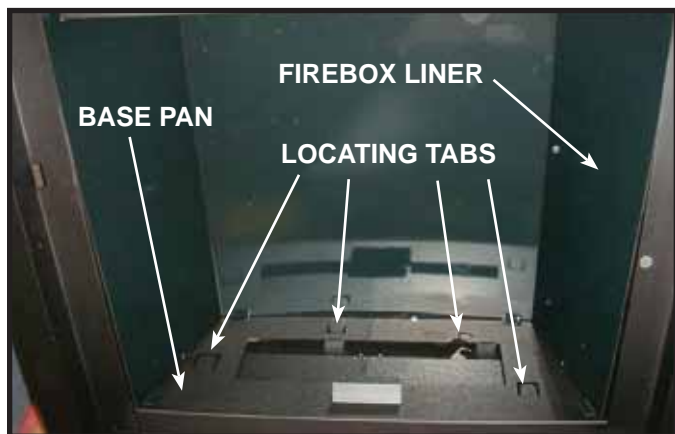

Figure 12.7
2. Fold down the log locating tabs (if bent up) on the base pan so they are parallel with the burner. See Figure 12.7.
3. Proceed to step 4 if the firebox liner is not being installed. Install the firebox liner by placing it on the base pan of the fireplace and sliding it back until it contacts the back of the firebox. See Figure 12.7.